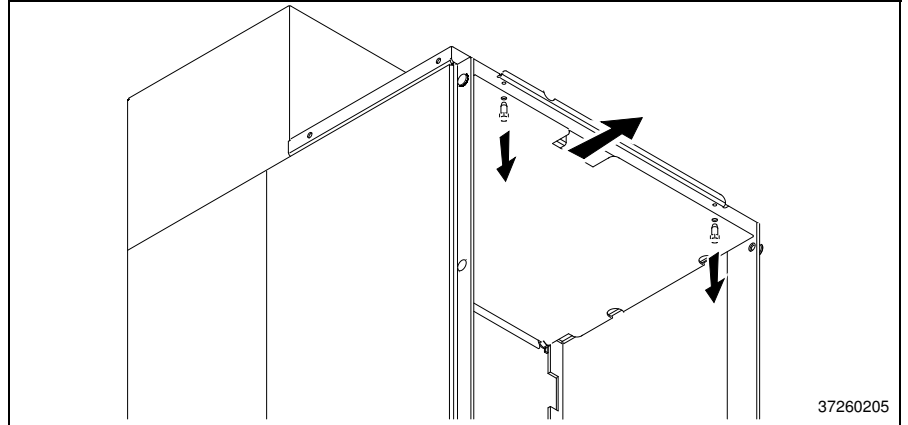

Fig. 24
6. Remove the bus bar covering sheet from the top part of the cable connection housing (Fig. 24). For this purpose unscrew both fastening screws and pull the sheet out of the clip-on clamps.